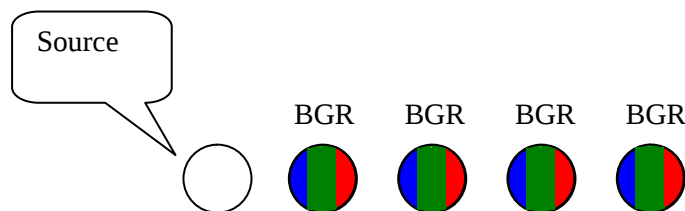
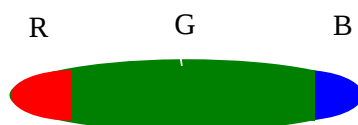
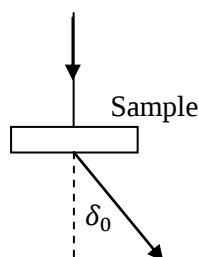

Figure 6: Faint pattern near the light source.
Figure 7: Bright pattern farther to the right from the light source.
Figure 8: The deflection angle δ_0 .
- d. (0.5 pts.) When a perpendicular white light beam is incident on the sample from one of its sides, the following faint pattern can be observed in the transmitted light, slightly to the right from the source (Figure 6). "R", "G" and "B" stand for red, green and blue respectively. Note: this pattern may be difficult to observe, and measurements on it are not required.
Further to the right you may observe a much brighter pattern (Figure 7):
- C. The patterns depicted in Figure 6 result from interference, while the pattern depicted in Figure 7 results from dependence of n on the wavelength.
- D. The patterns depicted in Figure 6 result from the dependence of n on the wavelength, while the pattern depicted in Figure 7 results from interference.
- e. (1.4 pts.) With the white light set up as in part (d), measure the deflection angle δ_0 of violet light (at the far blue end of the spectrum) for the dominant peak depicted in Figure 7. The deflection angle is defined in Figure 8. Record all intermediate measurements. Provide error estimates.